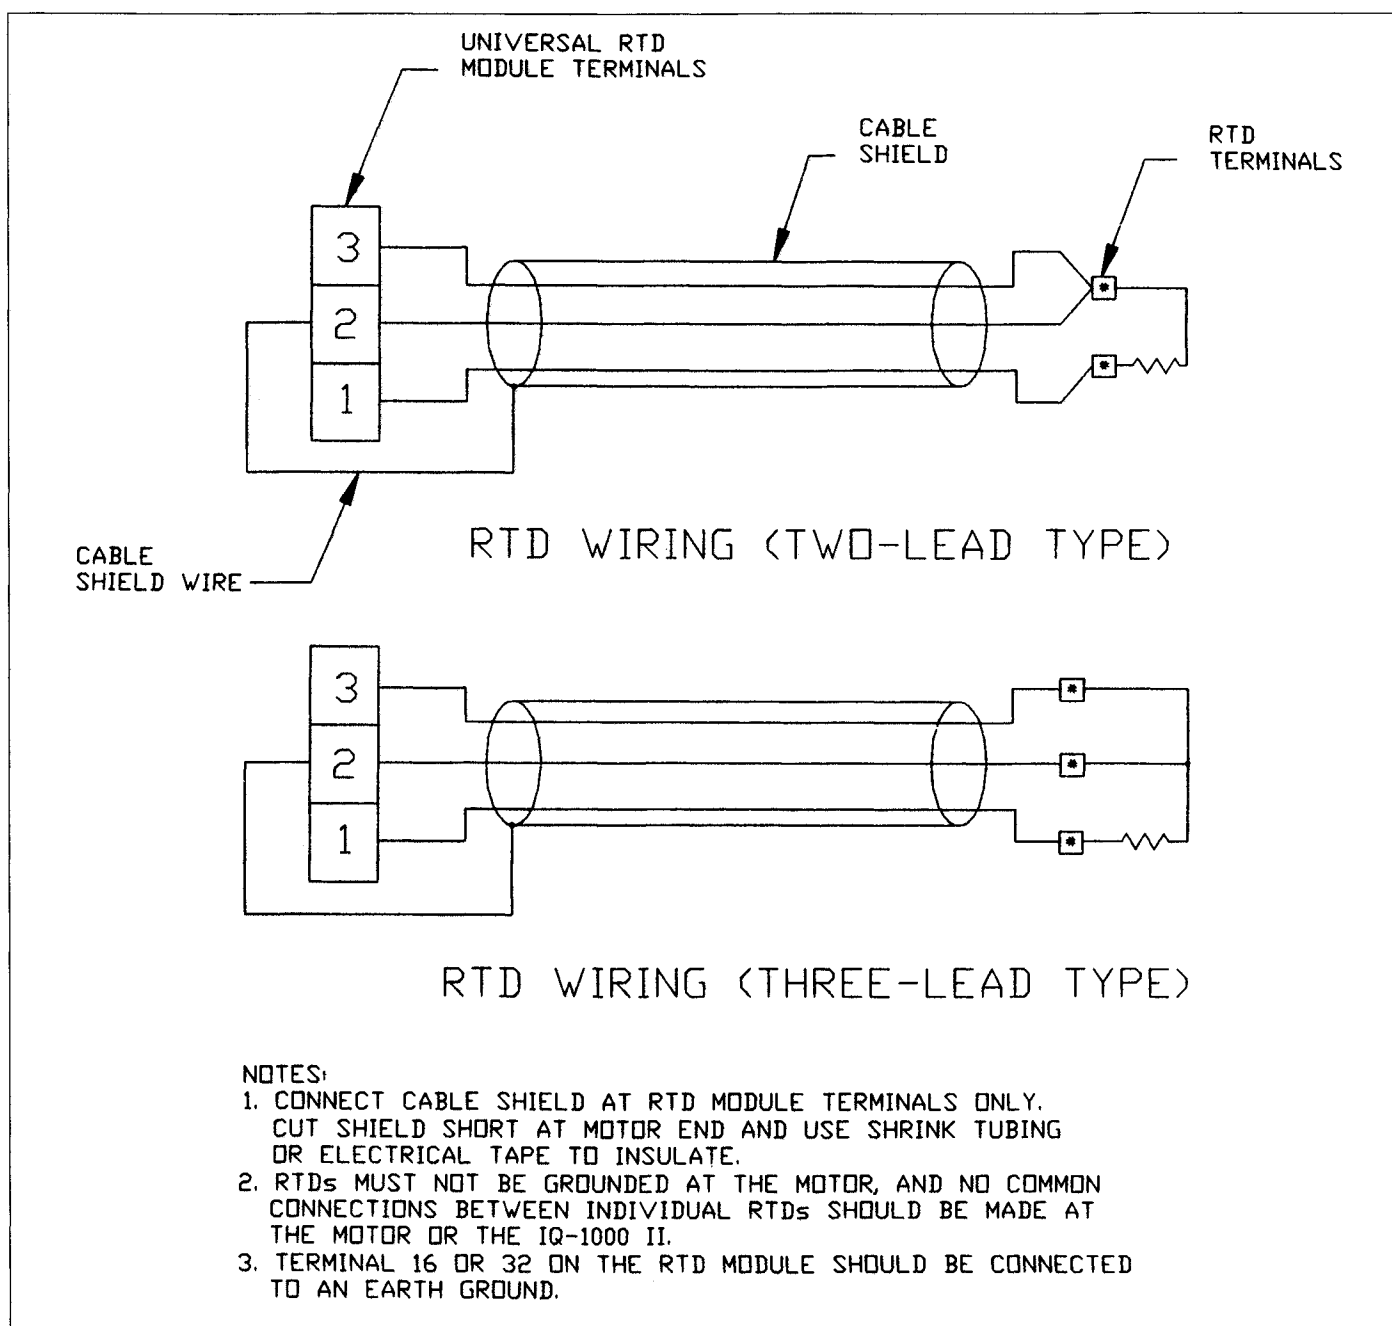

Fig. 5.9 RTD Wiring
Typical wiring for the RTD Option is shown in Figure 5.9. The exact RTD wiring for each application should be included in the Wiring Plan Drawings.
- When making connections between the RTD Module and an RTD that has only two leads, connect two of the interconnecting cable's leads to one of the RTD's leads (see Figure 5.9). Make this connection as close to the motor as possible. Tie the third interconnecting lead to the remaining RTD lead.
- When making connections between the RTD Module and a three lead RTD, connect the shield and drain wire to the RTD Module terminal as shown in Figure 5.9.